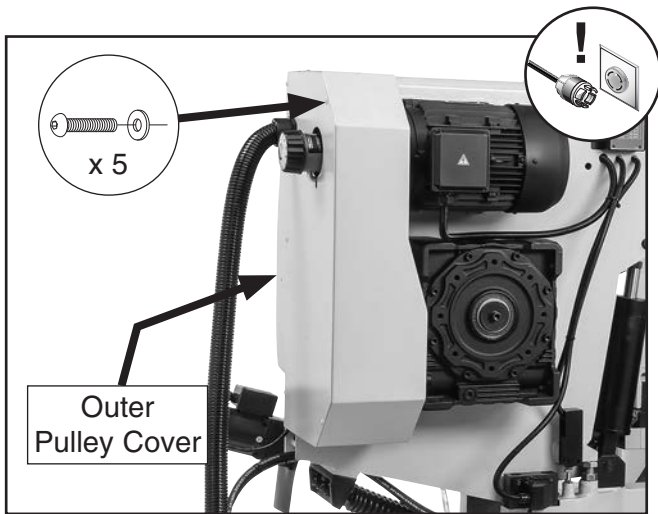

Figure 119. Outer pulley cover and securing button head cap screws.
2. Remove (5) button head cap screws and flat washers to remove outer pulley cover (see **Figure 119**).